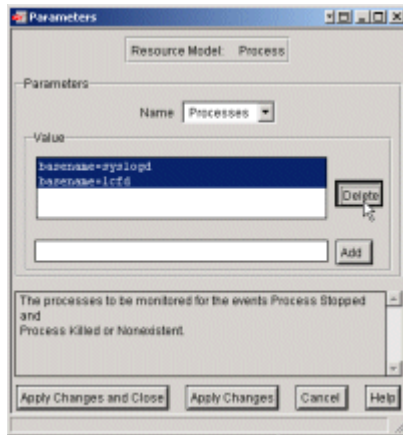

Figure 9-104 Deleting default parameters from Process resource model
5. Shift select both entries (**syslogd** and **lcf**) in the Value list, and then select **Delete** as shown in Figure 9-104.